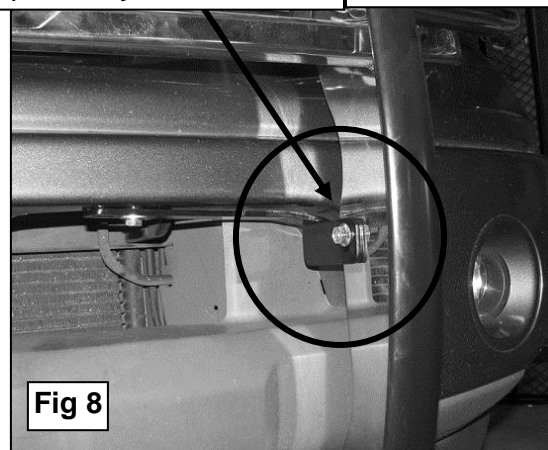

Fig 8
7. Push the Grille Guard back into position and line up the holes in the Top Brackets with the holes in the Grille Guard uprights. **NOTE:** It may be necessary to move the Top Bracket in or outward in the slots to line up properly with the Grille Guard. Attach the Top Brackets to the inside of the Grille Guard uprights using the included (2) 10mm Button Head Allen Bolts, (4) 10mm Flat Washers and (2) 10mm Nylon Lock Nuts, (Figure 8).